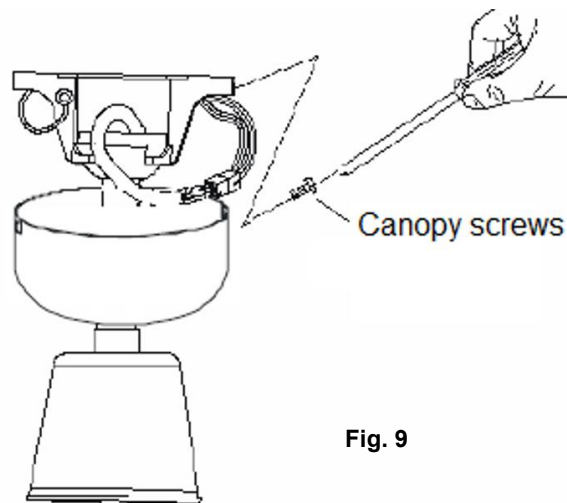

Fig. 9
- Cover the mounting bracket with the canopy. Ensure all electrical wiring is tucked inside the canopy and that the wires are not damaged during this step. Secure the canopy to the hanger bracket using the screws provided. (Fig. 9)